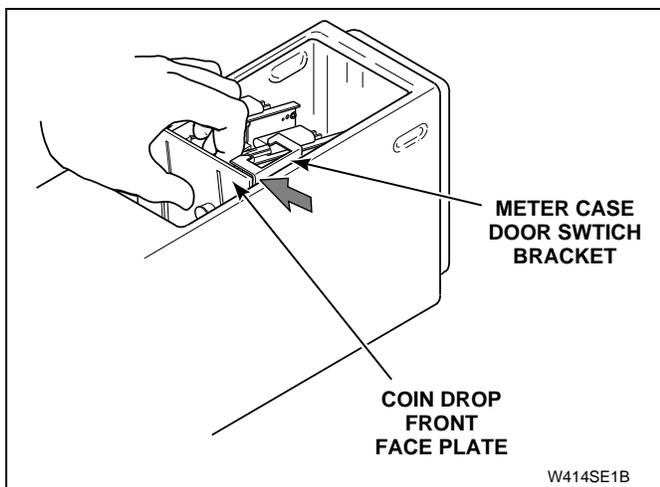

Figure 20
- (2.) Carefully pull front of coin drop up and forward, so the drop's front face plate clears the meter case's door switch bracket. See *Figure 20*.
- (4.) Grasp top of coin drop front face plate between the two drops, as shown in *Figure 20*.